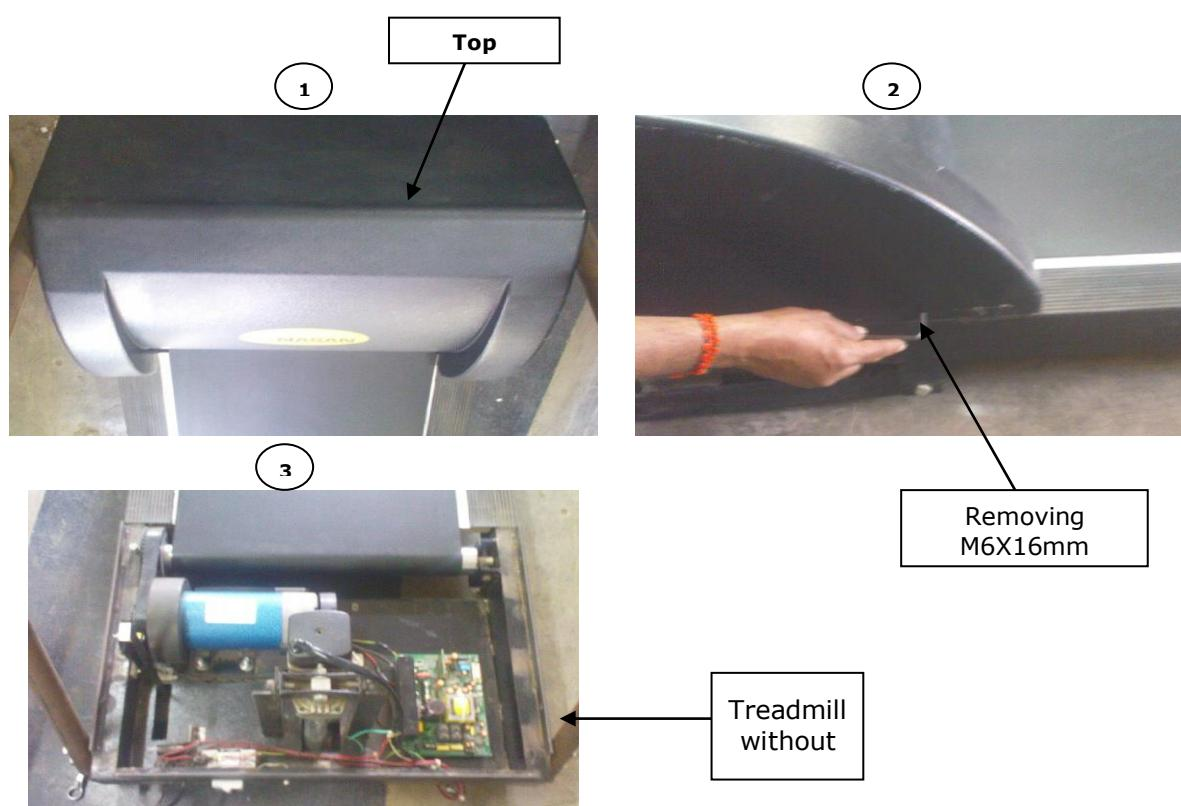

Fig.12.Treadmill after removing top cover
c) Remove top cover of treadmill by removing seven M6X16mm button head Allen bolt as shown in fig.12.